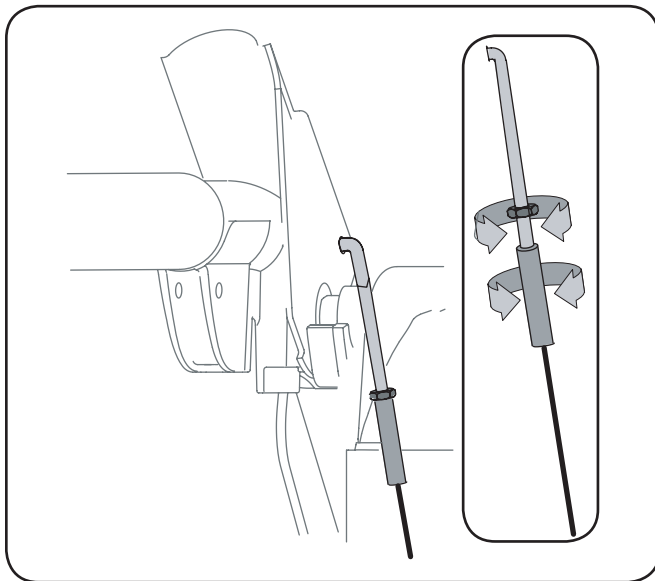

Figure 3-11
8. Thread the ferrule without turning the cable onto the “Z” fitting until there is no slack in the cable. See Fig. 3-11. Do not overtighten the cable. Hold the flats on the ferrule with pliers and tighten the jam nut against the ferrule.
10. Retighten the hex jam nut. See Fig. 3-11.